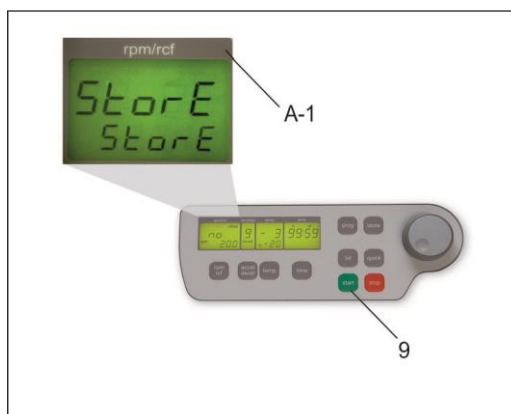

Figure 4
- All changed settings must be confirmed by the key, "start" (9). A confirmation screen will appear with the word; "store" in the display box, "rpm/rcf"(A-1) - Only then, the pre-selections are valid, (see Figure 4)!